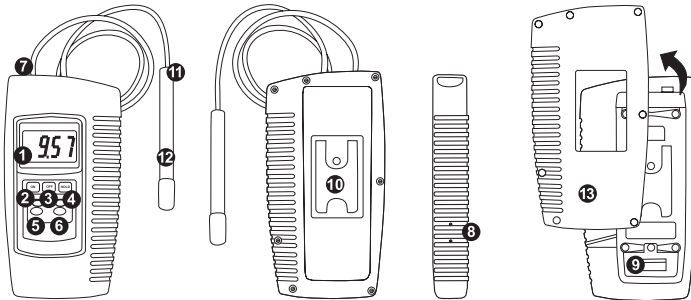

Figure 1
- 1) Connect the Conductivity Electrode (Figure 1, 12) to the Electrode Input Socket (Figure 1, 7).
- 3) Select the 2 mS/cm or 20 mS/cm range by pressing the appropriate range button (Figure 1, 5 or 6).
- 4) Holding the electrode handle (Figure 1, 11), immerse the conductivity electrode completely in the sample.
- ii) Select the 2 mS/cm range (Figure 1, 5).
- iii) Holding the conductivity electrode by its handle (Figure 1, 11), immerse it completely in the calibration solution. Shake the electrode to disperse air bubbles on it and allow measurements to stabilise. Adjust „Calibration Adjust LR” (see above) until the display reads exactly 1.413 mS/cm.
- ii) Remove the protective cover before replacing the battery. To replace the battery, remove the Battery Compartment Cover (Figure 1, 9) on the rear of the meter.